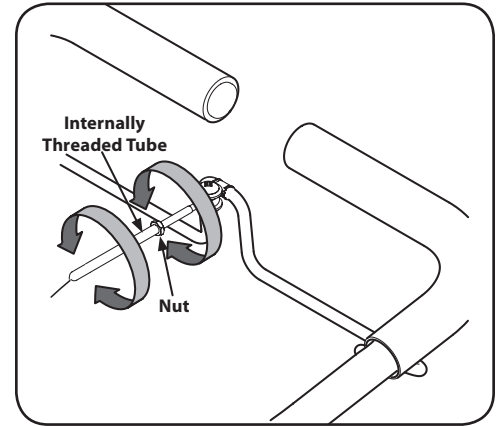

Figure 3-8
- Carefully engage the clutch by lifting the clutch control bail against the handle. The wheels should spin. If the wheels do not spin with the tiller in forward, adjust by unthreading the tube at the end of the cable a few turns counter-clockwise, when standing in the operator's position. See Figure 3-8.